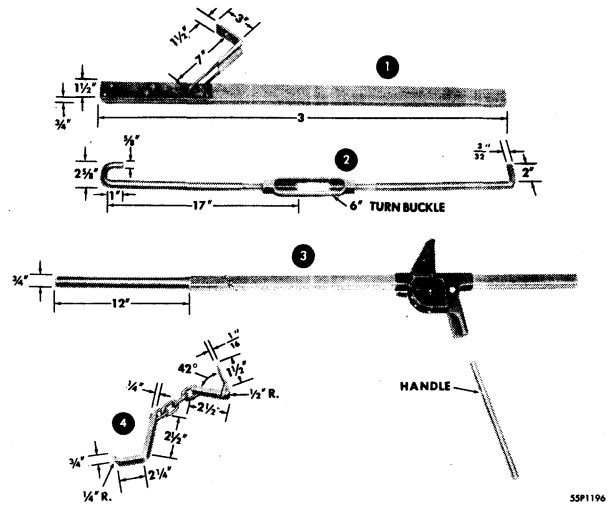
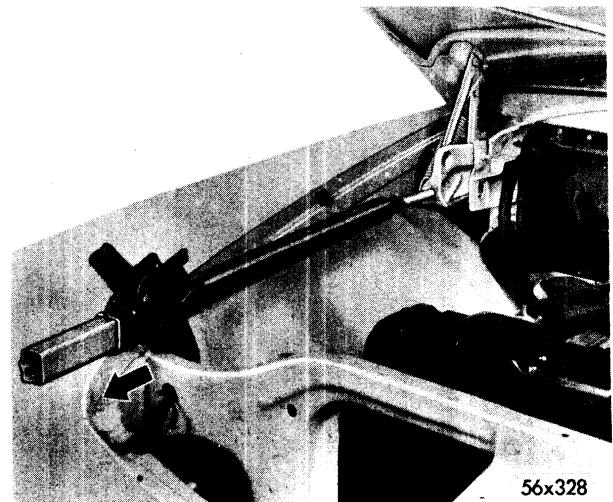

Fig. 11—Body Adjusting Tools
Fig. 12—Moving Fender Forward with Jack (Typical View)
**Hood Projects Beyond Front of Fender**—This condition can be corrected by shifting fender forward with standard bumper jack with 10½ inch steel plate welded to base, as shown in Figures 11 and 12. To correct this condition, loosen bolts holding front fender to cowl side of panel. Place extension end of jack against hinge bracket on side of cowl panel and base of jack against upper section of radiator support, as shown in Figure 12. Extend jack carefully while checking clearance between rear edge of fender and leading edge of front door. When correct hood to fender fit is obtained, tighten fender to cowl bolts securely. Remove jack.
The turnbuckle drawbar, referred to above, can be constructed from two 5/8 inch sections of round steel stock, threaded at one end; on the other end, a 90 degree bend about 2½ inches from end. Be sure overall length of drawbar is enough to reach from hood hinge support bracket to radiator support. Install threaded ends in turnbuckle. (See Fig. 11.)